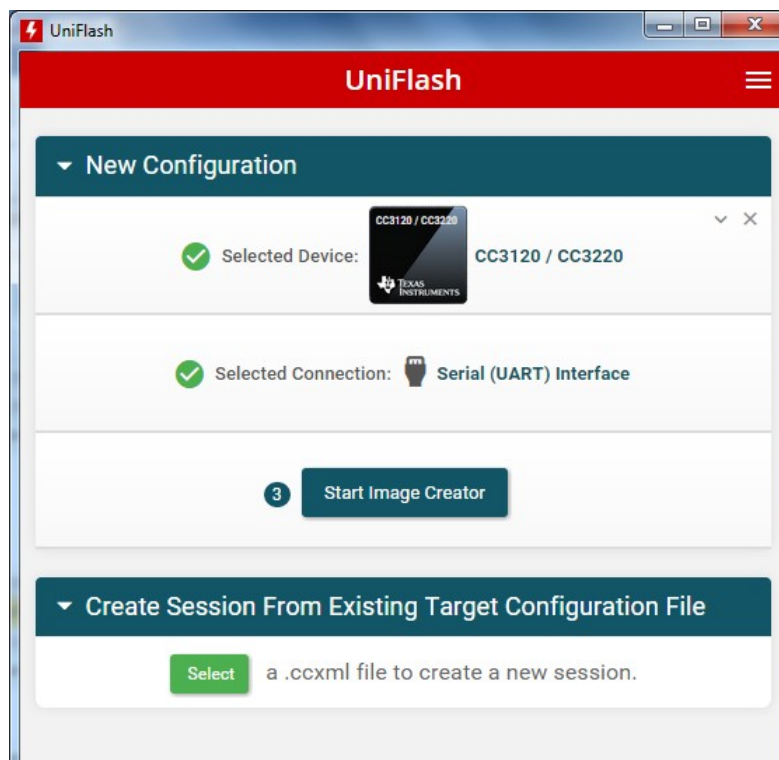

Figure 37. UniFlash – Choose CC3120 / CC3220 Device
2. Choose CC3120/CC3220 device, and then click the Start Image Creator button (see Figure 37).